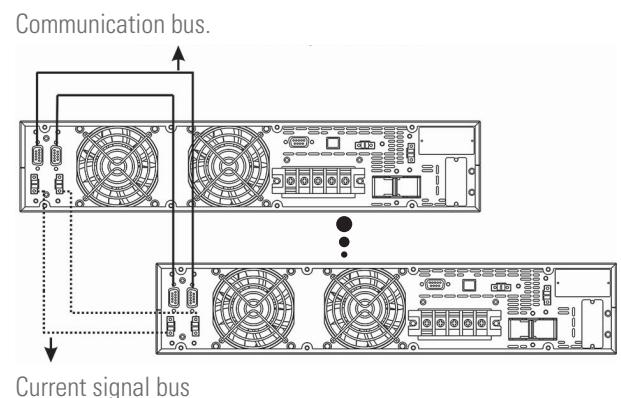

Fig. 17. Communication and current signal connections for system in parallel.
- **Parallel connections and current signal bus.** Use the 15-wire signal cable with mesh and DB15 connectors at the ends to connect a maximum of 3 devices. Each cable has a male and a female connector at the ends which must be connected to link two devices. It is essential to close the communications loop of the parallel bus and the current signal bus through the cable with connectors (see Fig. 17). The length of the cables related to the parallel bus is approx. 1.5 metres and must not be prolonged under any circumstances due to the risk of interference and communication failures that this would entail.